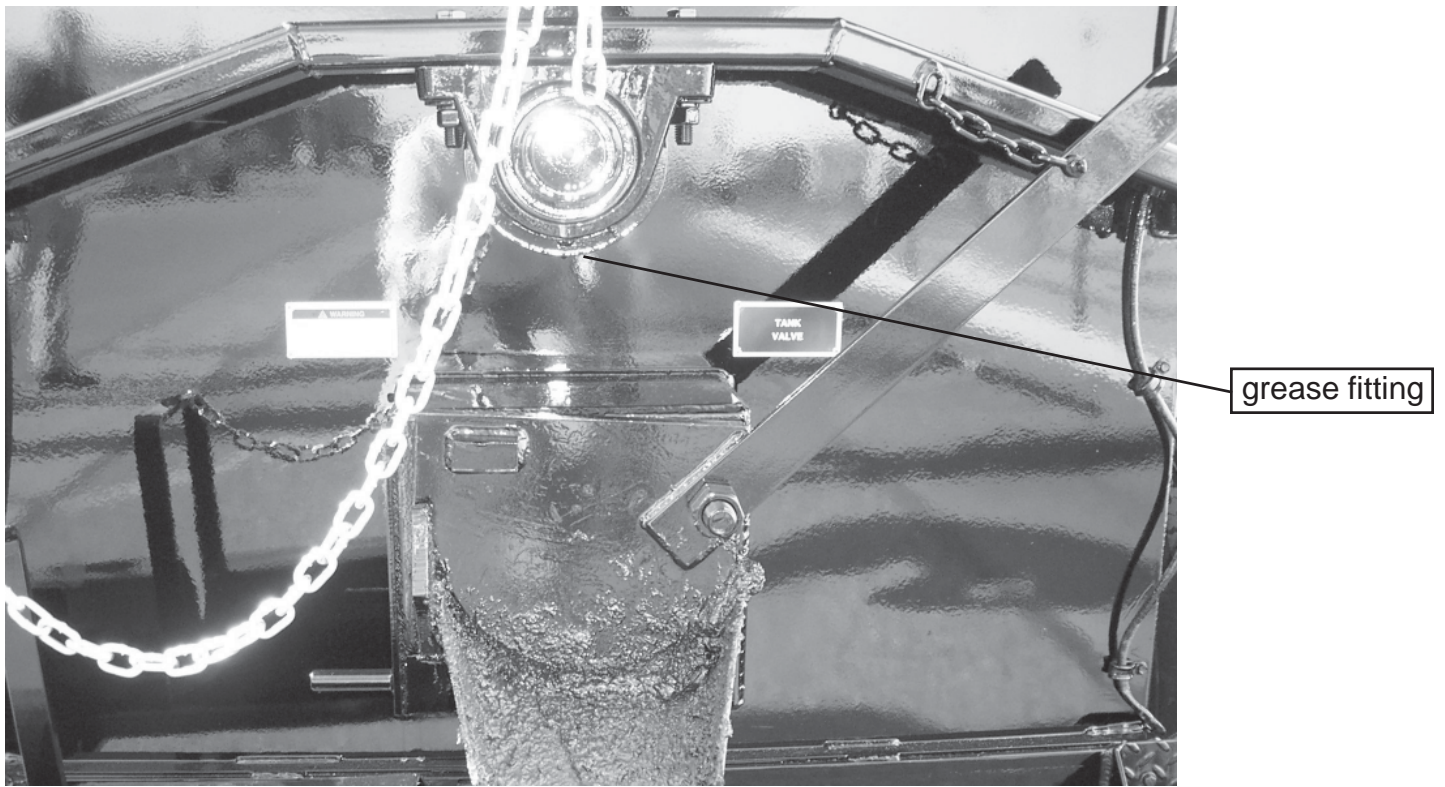

Fig. 1
7. Lubricate mixer bearings weekly (see Fig. 1).